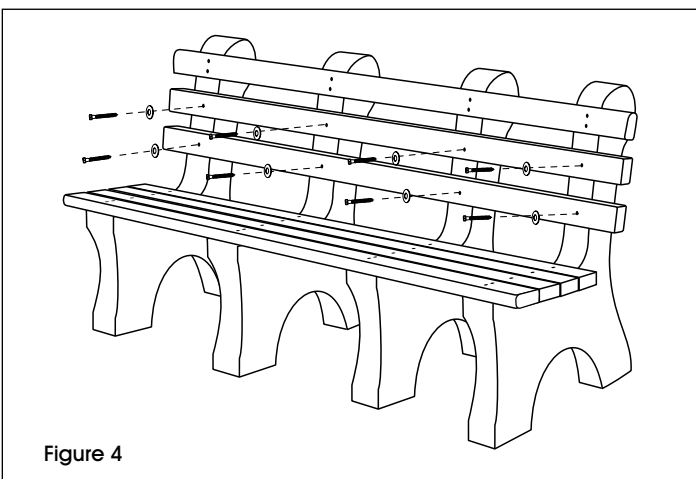

Figure 4
6. Align the remaining two single hole bench slats on the pre-drilled holes of the bench base backrest. Loosely attach the single hole bench slats with the 3½" lag screws and washers using the power drill and 7/16" socket bit (will tighten later in step 7). (See Figure 4)